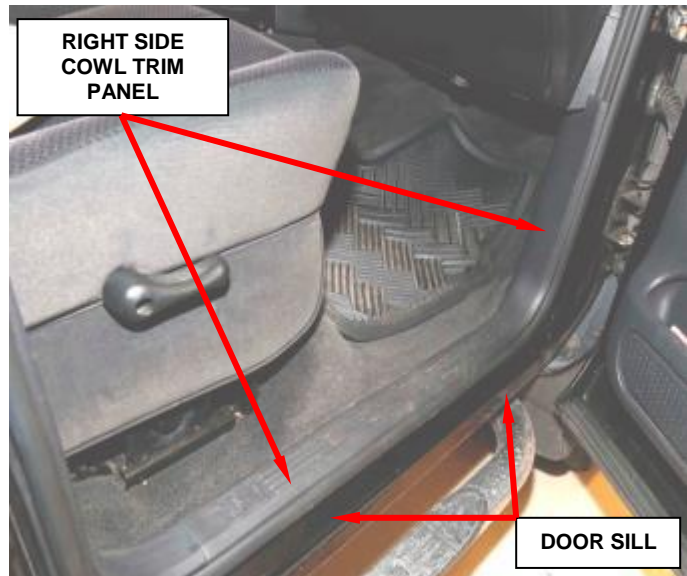

Figure 2 – Right Side Cowl Trim Panel
- a. Using a trim stick, disengage the retaining tabs of the cowl trim panel from the retainer clips in the door sill (Figure 2).